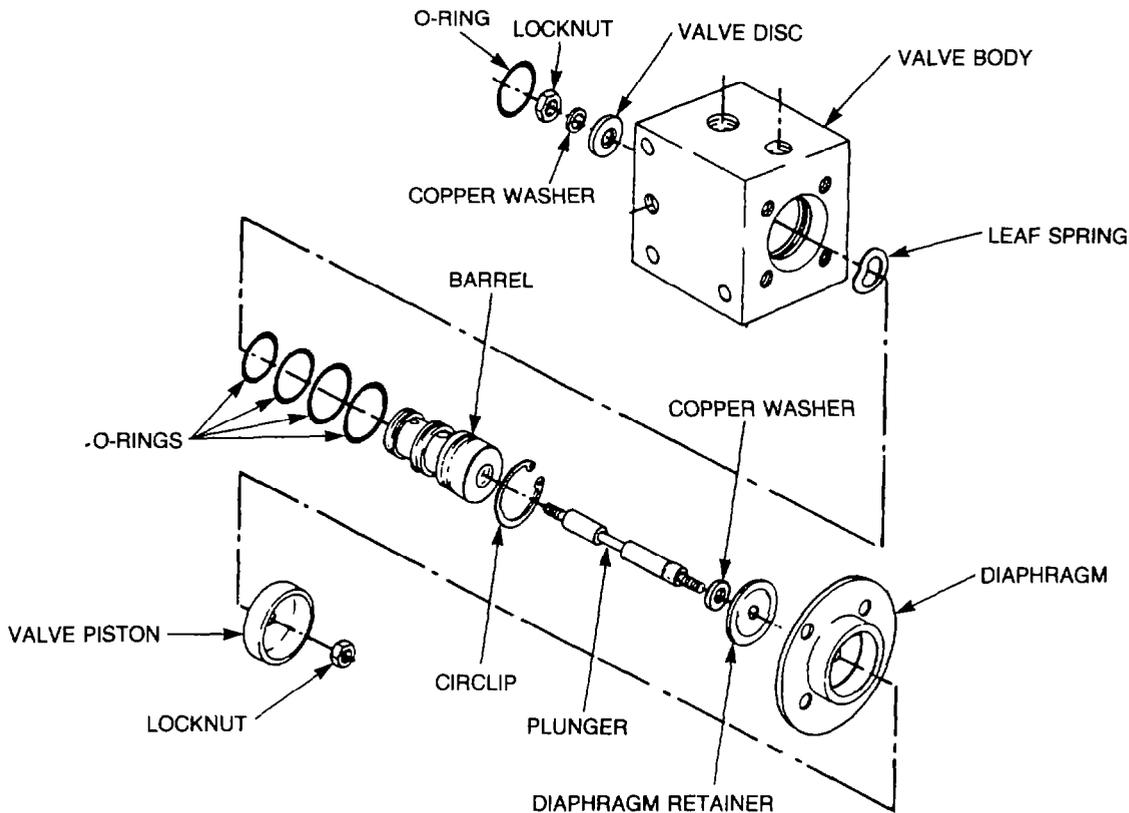

Figure 135 — Valve Body — Exploded View
- d. Remove and discard the O-ring from the valve body (see Fig. 135).